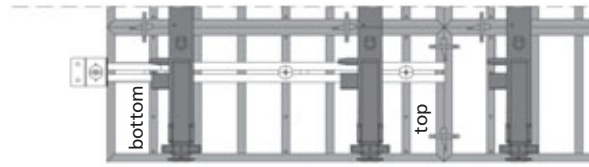

Fig. 14.1 Mammut panel for horizontal use; the bottom of the panel must be directed to where the sliding part of the stop end bracket is required
■ **Mammut formwork:** When attaching the stop end bracket at a horizontal panel, make sure the panel is turned in a way that its bottom is directed to the side where the sliding part of the stop end bracket is required to form the stop end (Fig. 14.1 und 14.2).
■ **Mammut and StarTec:** The clamping device for the stop end bracket SB 110 must be used for the attachment of the stop end bracket (Fig. 14.1 through 14.4).